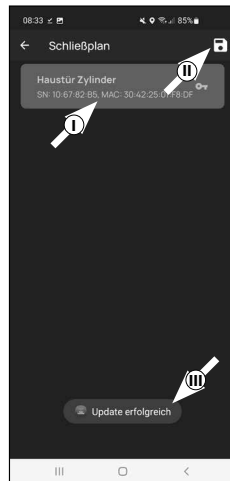

Fig. 3
- 4 The cylinders registered in the app are displayed in the subsequent menu. Select the cylinder which the previously specified user is to be able to open (I) (Fig. 3). If there are a number of cylinders and you wish to assign several of them, select all the cylinders you require. Save at the top right (II) (Fig. 3). A short confirmation will be displayed (III) (Fig. 3).